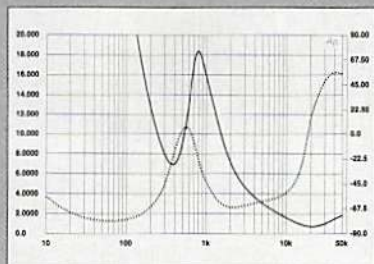

Fig.1 MartinLogan Montis, electrical impedance (solid) and phase (dashed) (2 ohms/vertical div.).
2.83V/m, which is within experimental error of the specified 91dB. As with other MartinLogan electrostatic loudspeakers, the Montis's impedance drops to a very low value at the top of the audioband. The Montis is specified as having an impedance of 0.52 ohm at 20kHz. My measurement (fig.1), taken with an Audio Precision System One, gave a figure of 0.7 ohm at 20kHz, but this included 15' of speaker cable. Repeating the measurement using the DRA Labs MLSSA system, which compensates for the speaker-cable impedance, gave a figure of 0.55 ohm at 20kHz. Either way, that this speaker is a difficult load for the partnering amplifier to drive is compounded by the high electrical phase angle, and ameliorated only by the fact that music rarely has high levels of energy in the top octaves.
The drastic rise in impedance below 400Hz in fig.1 is due to the high-pass filter in the panel's signal path, which will relieve the amplifier of having to deliver